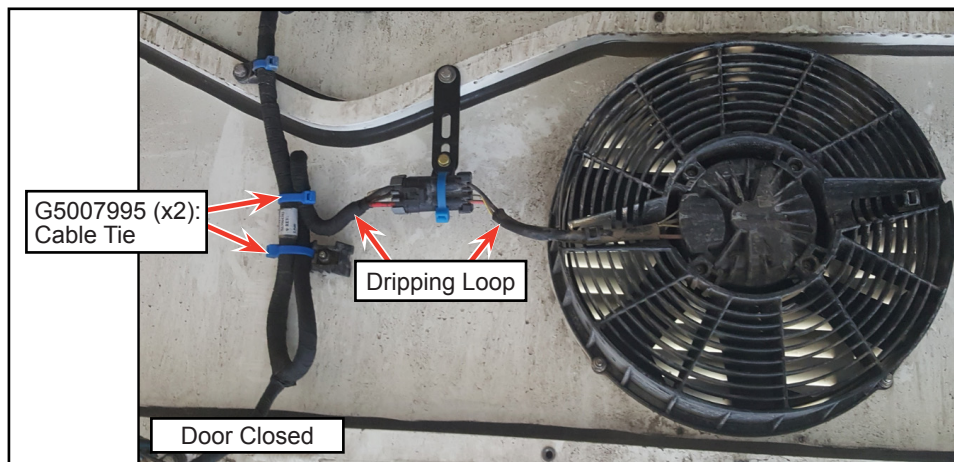

Figure 16 - Cable Tie (G5007995) Installation
1.29. Install the wiring harness with two cable ties G5007995 (see Figure 16).